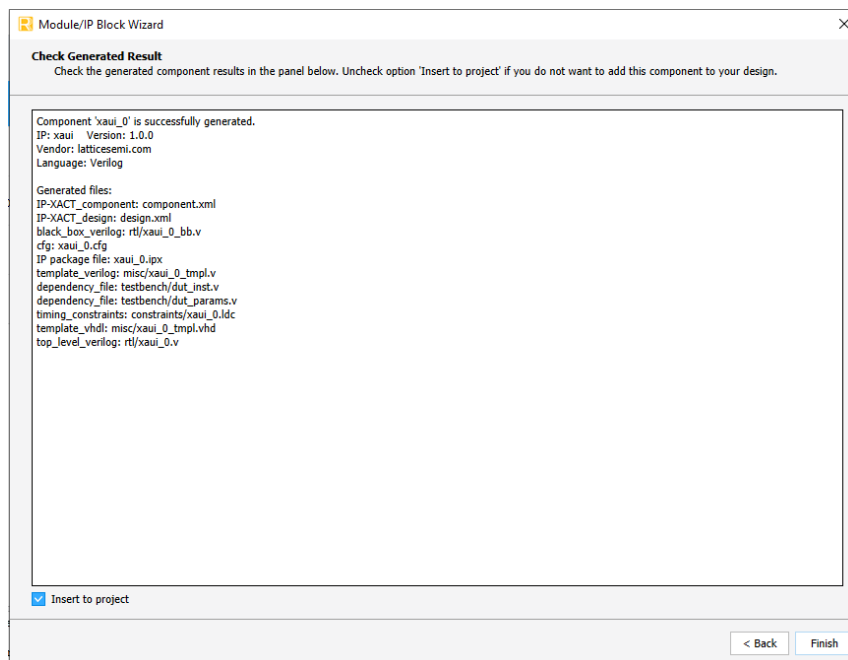

Figure 7.3. Check Generating Result
- Click **Generate**. The **Check Generating Result** dialog box opens, showing design block messages and results as shown in Figure 7.3.